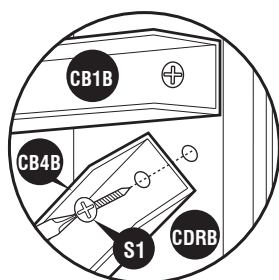

**Fig.1:** Use (**S2**) screw. Fix (**FCB**) to (**CCB**). Leave it loose.
5. To stabilize the front panel attach the **front center band right (CB1B)**. Start with the **center band fitting**. Fix to corner column (**CCB**) with (**S2**) screws. To continue See figures (**fig.1**) (**fig.2**) and (**fig.3**).